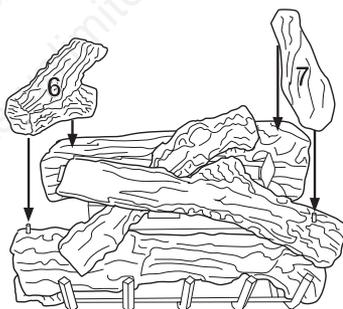

Figure 39 - Installing Logs #6 and #7, Model CD42M-A
- Place log #6 (left log) on left pin of front log (#2) and smooth surface of rear log (#3). Make sure it is seated properly (see Figure 39*).
- Place log #7 (right log) on right pin of top log (#5). Make sure it is seated properly (see Figure 39).